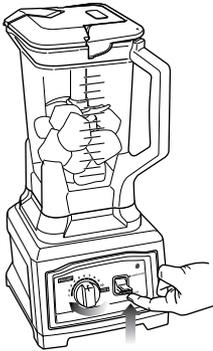

Fig. 6
- 8 Turn the Variable Speed Dial to speed 1. (Fig. 6) The power indicator light (⏻) will now turn on.